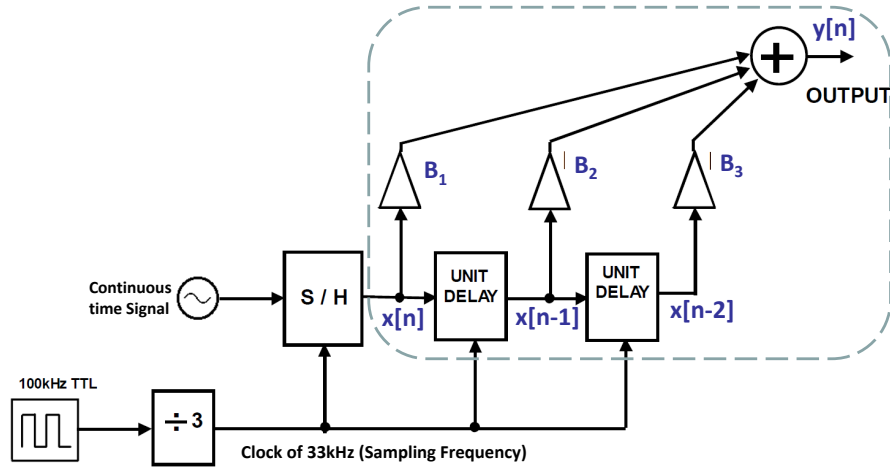
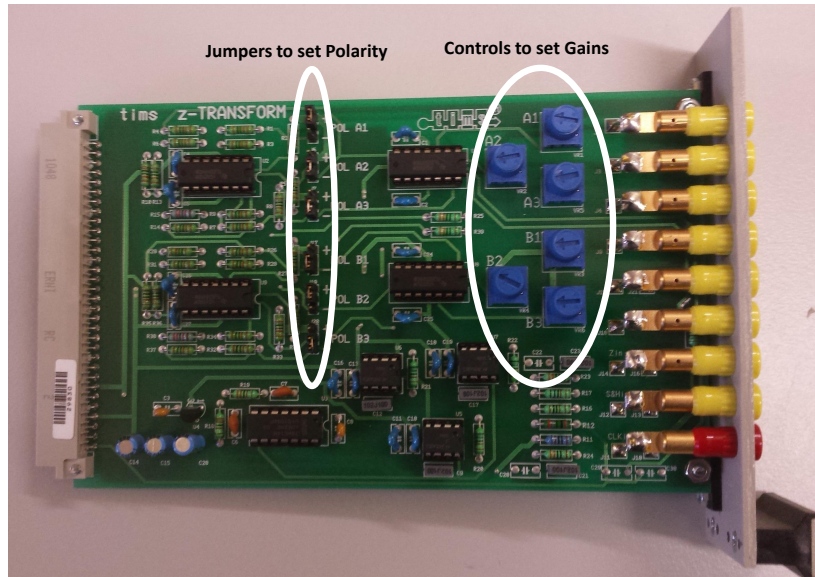
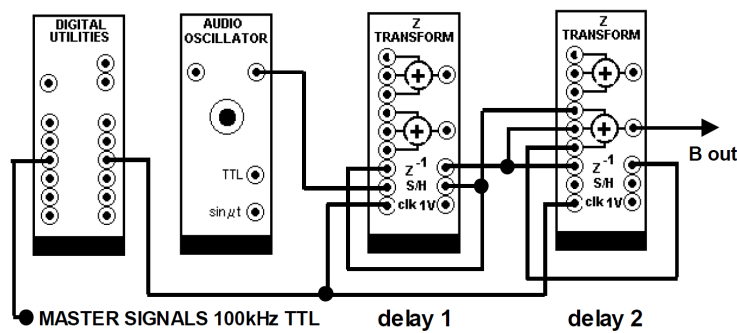

Figure 1: Block diagram of discrete time system
Figure 2: Z-Transform module with jumpers to set polarity and controls to set gains.
Figure 3: Task 1 - TIMS model of discrete-time system for frequency response measurement.
Here, we explore the frequency response of the discrete time systems. The discrete time system under consideration is shown in Figure 1 (inside the dashed box), with the following input/output relation
In order to produce a delay in the signal by one unit of time, we use Z-Transform module as indicated in Figure 1. You do not need to know the details of Z-Transform. You can only think of it as a signal processing device that delays the signal by one unit of time.
In fact, we are processing a continuous time signal by first converting the continuous time signal to a discrete time signal and then processing a discrete time signal using a discrete time system. We carry out the conversion of continuous time (also called analog) signal to a discrete time (also called digital) signal outside the dashed box in Figure 1. Continuous time is passed through sample and hold (S/H) module to obtain a discrete time signal  $x[n]$ . The sample and hold module provides the simplest form of continuous to discrete time conversion, where the sample at each sampling instance is hold at the output until the next sampling instance. Note that the clock of 33 kHz is also provided to S/H module, which indicates that the continuous time is sampled with a sampling frequency of 33 kHz.
Here, we use the TIMS modules to implement the LTI system in Figure 1. First, we adjust the gains  $B_1$ ,  $B_2$  and  $B_3$  of the second Z-transform module in Fig. 3. See the onboard switches on the Z-transform module., illustrated in Figure 2
1. Position the Z-TRANSFORM module in a slot with at least 2 vacant slots to the left of it so you can access the gain controls with your fingers. Do not connect the circuit in Figure 3 at this point. You will do that in step 7.
7. Now, patch up the TIMS model in Figure 3. Make sure you use the TTL output of the 100kHz MASTER SIGNALS. Use the DIGITAL UTILITY frequency divider to obtain 33.33 kHz. Confirm that the clock frequency is set 33.33 kHz using the FREQUENCY COUNTER.